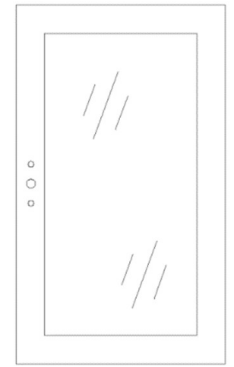

Figure 7
2.3 Rotate the panel 180°; once rotated install the rollers in the bottom rail of the operating panel. Use #8x3/4" pan head tapping screw. Be sure to fasten rollers one (1") inch from ends of rails (Figure 7).